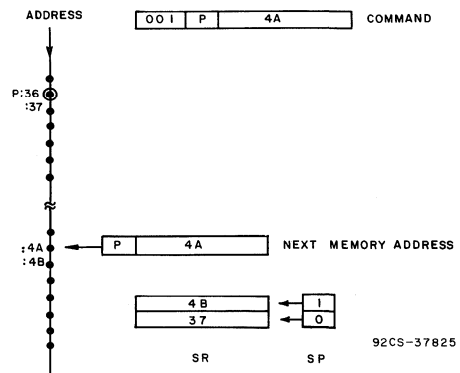

Fig. 4 - Opcode 1 - unconditional branch and link.
Opcode 1, Fig. 4, is an unconditional branch and link. The lower ten bits are the next address, as in command 0. However, the stack pointer (SP) is incremented prior to loading the incremented lower 8-bit portion of the microcommand into the SR. The net effect is to leave the previously active SR pointing to the location in micro-memory just past the branch and link command. Execution continues using the new SR until a return is executed. A return causes the controller to pick the next address from the previously active SR.